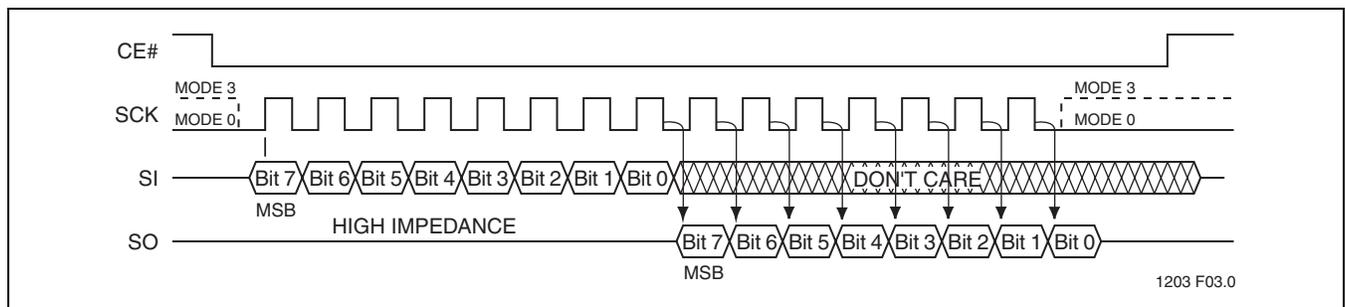

FIGURE 4: SPI Protocol
The SST25WF080 support both Mode 0 (0,0) and Mode 3 (1,1) of SPI bus operations. The difference between the two modes, as shown in Figure 4, is the state of the SCK signal when the bus master is in Stand-by mode and no data is being transferred. The SCK signal is low for Mode 0 and SCK signal is high for Mode 3. For both modes, the Serial Data In (SI) is sampled at the rising edge of the SCK clock signal and the Serial Data Output (SO) is driven after the falling edge of the SCK clock signal.